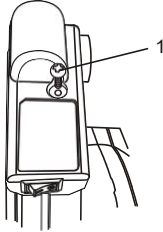

Fig. 12
2. Remove the laser cover screw (1) using a #2 (+) screwdriver (Fig. 12).